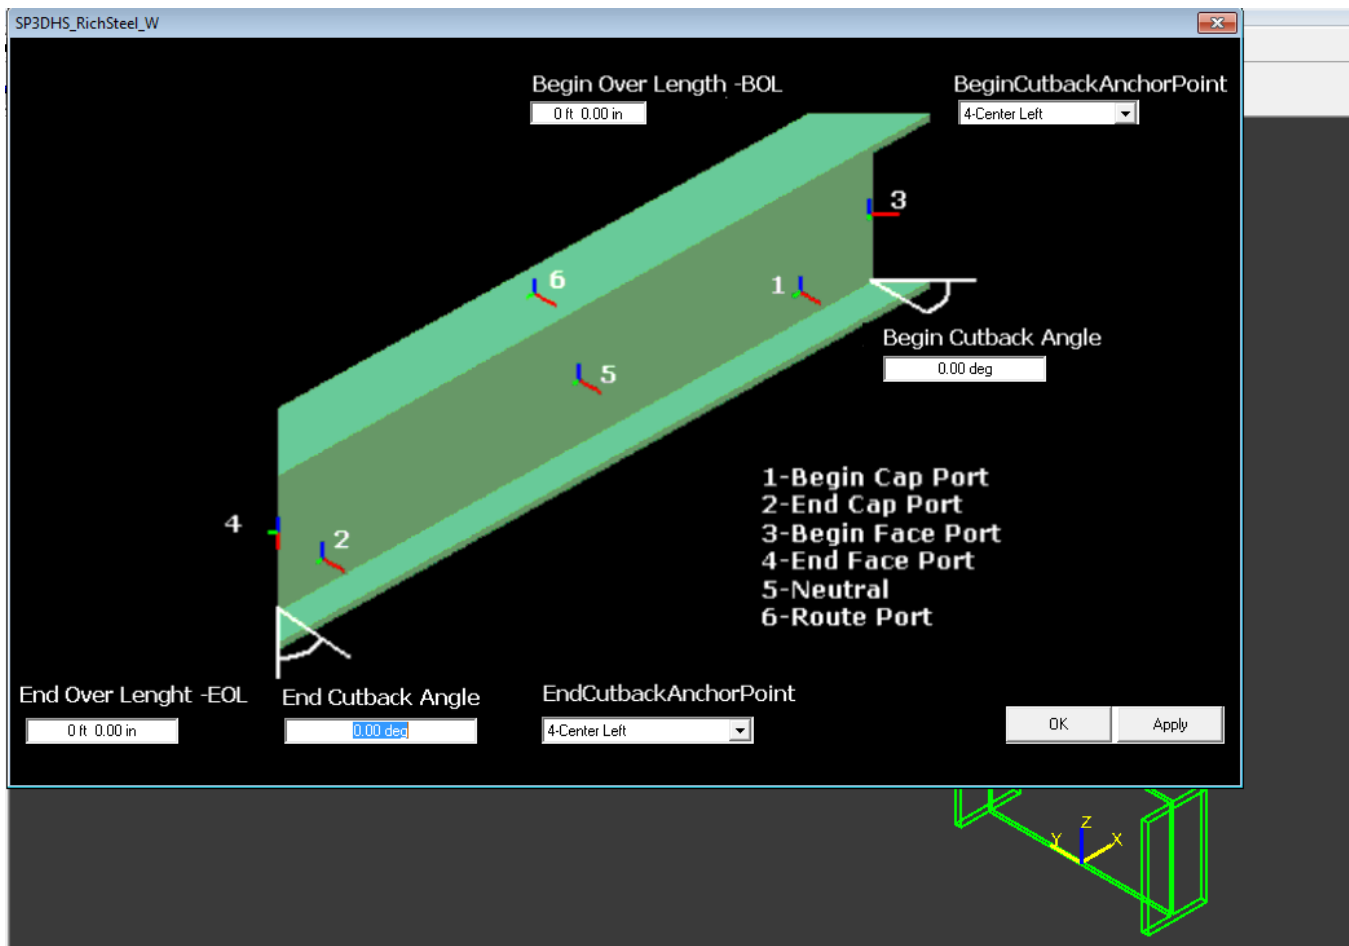

Figure 2: User Defined Forums for steel part.
- 3- After selecting the above shown part, a box will pop up showing the important occurrences of the selected part and allowing the user to alter them prior to placing the steel part. This box is what is called User Defined PIPE Forums for Steel Part as shown in Figure 2.
As it can be noticed from Figure 2 that the user defined form includes the important properties for the steel part and gives the user the ability to easily alter them. These occurrences are: